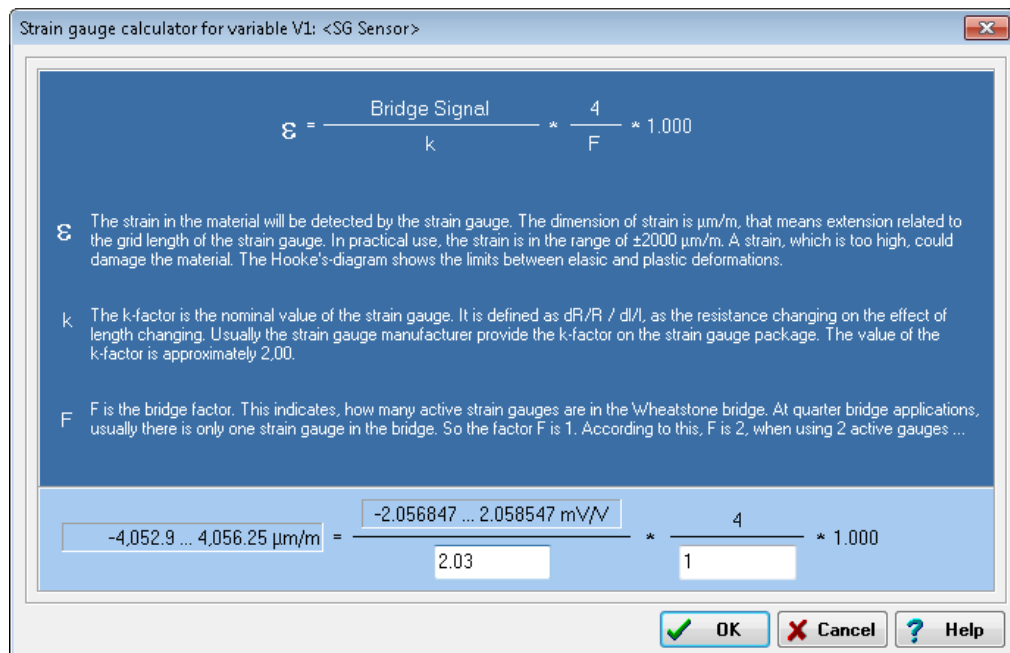

Fig. 6-10 Scaling dialog for strain gauges.
2. Enter the gauge factor of your strain gauge in the left field. The gage factor is a measure of the sensitivity of the strain gauge and is stated on each strain-gauge pack. It is usually between 1.8 and 2.2. Fig. 6-10 shows scaling with $k = 2.03$.